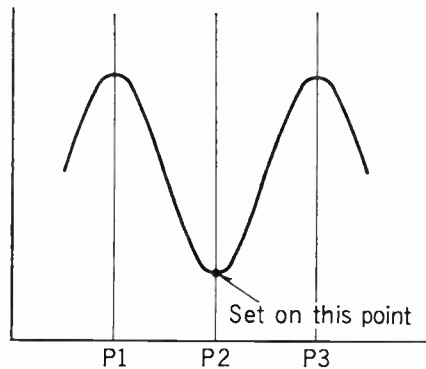

FIGURE 16
4. When turn the head height adjust screw (A) in figure 5, confirm that the output varies as maximum→minimum→maximum as shown in figure 16.